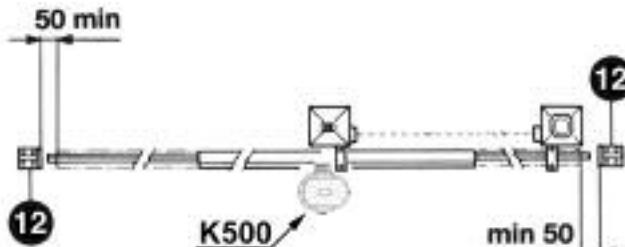

Fig. 2
- Besides the electrical or mechanical limit switches available on the operators, there must be, on both ends of the installation, a fixed mechanical stopper which stop the gate in the unlikely event of ill functioning of limit switches on the operators. For this reason the fixed mechanical stopper must be of an adequate size to withstand the static and kinetic forces generated by the gate (12) (Fig.2).